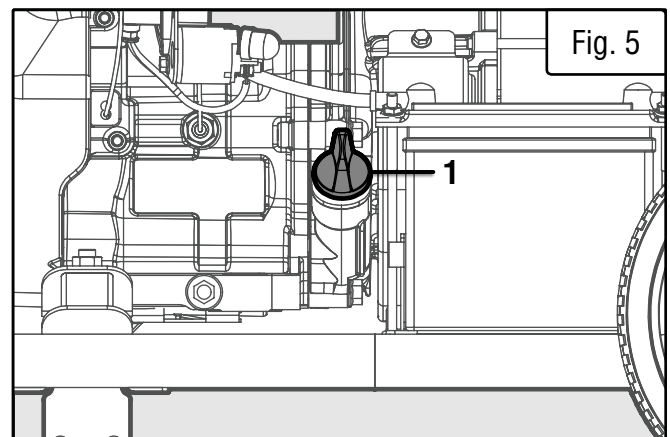

Fig. 5
2. Unscrew the oil dipstick (Fig. 5 - 1) from the engine.